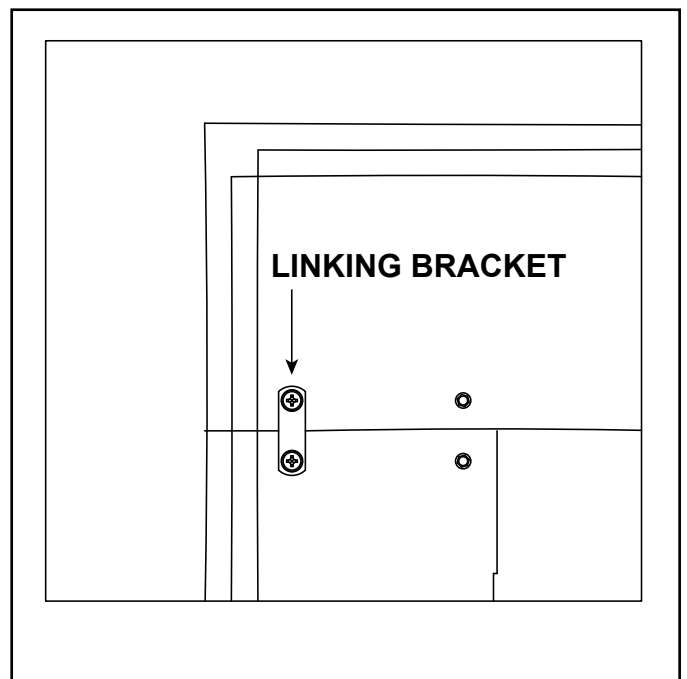

Figure 12 Attach Linking Brackets
3. Use the linking brackets (12) and M6x12 screws (24) to attach the two sides to the top and bottom surround sections. Confirm the top and bottom are oriented correctly with the cord outlet hole being located on the bottom. See Figure 12.